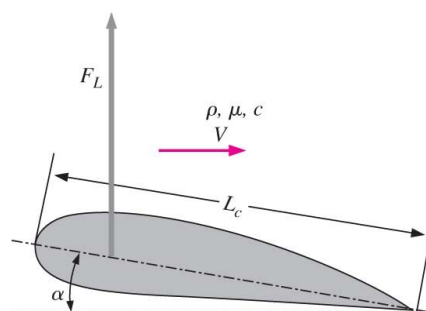

Figure 10
- (b) **Figure 10** shows an airfoil that is used in an experiment to predict its lift characteristic. The chord length of the airfoil L_c is 1.0 m and the platform area A , which is an area viewed from the top of the airfoil when the attack angle $\alpha = 0$ is 10.0 m^2 . To test the airfoil, a model of 1/10 in size is built and tested in a wind tunnel.